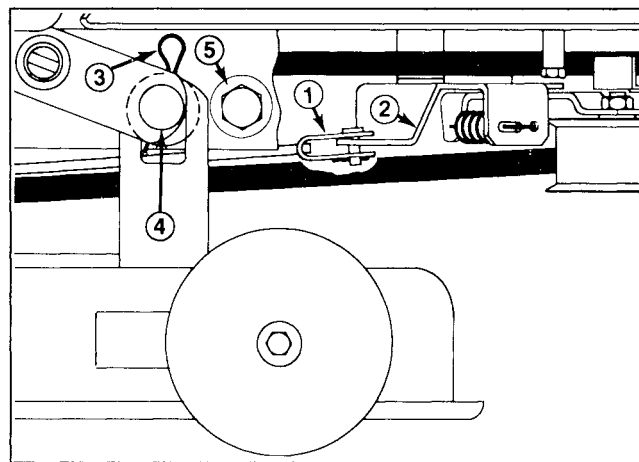

Figure 18
9. Remove cotter pin and clevis pin securing deck brake rod to idler bracket (Fig. 18).
10. Remove (2) hairpin cotters and washers retaining mower housing to mounting pins (Fig. 18). Grasp mower housing and move it to the side until housing slides off pins, then forward to allow front mounts to drop.
5. Remove capscrews, retainers and locknuts securing deck stops to each side of mower frame (Fig. 18). Slide mower housing rearward to release belt tension.